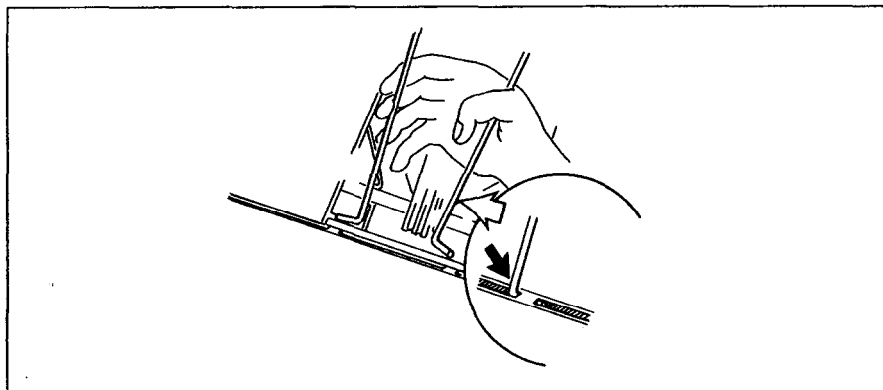

Figure 1-3. Insert the stacker attachment.
2. After you've inserted the hopper attachment, insert the stacker attachment, squeezing it with your hand, into the fixing groove in the front part of the main body as shown in Figure 1-3.